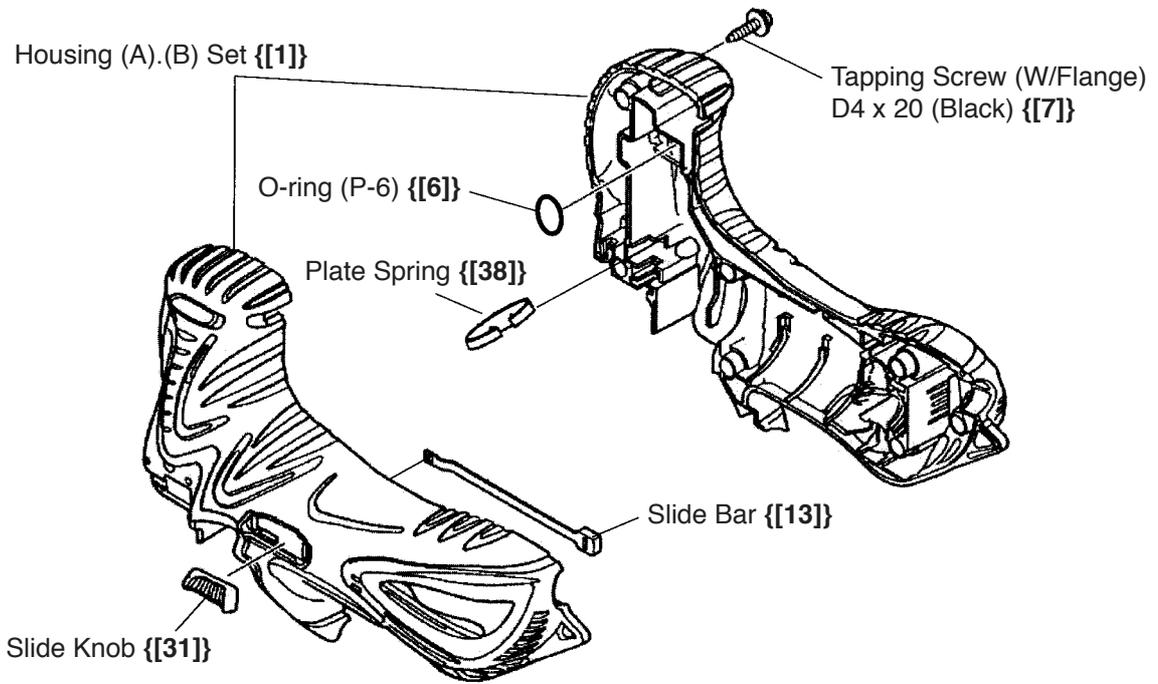
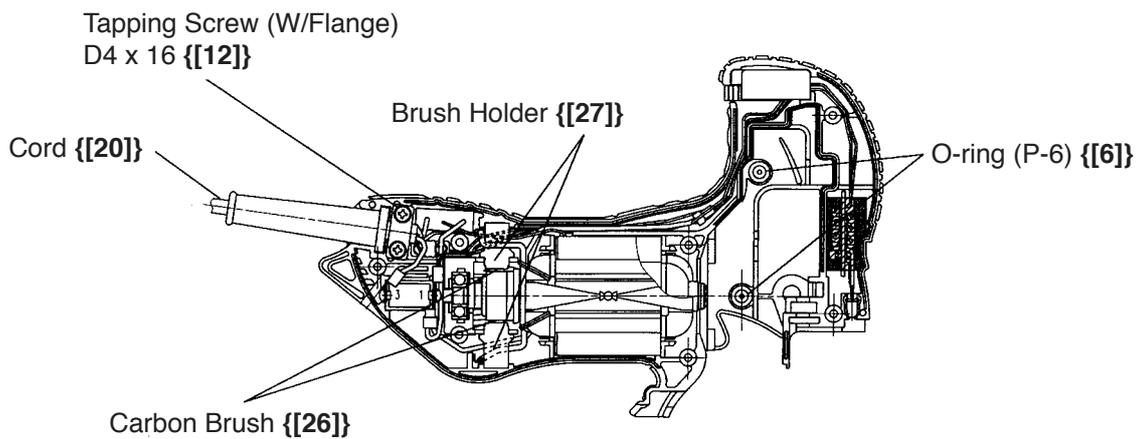

Fig. 7
Fig. 8
(3-2) Disassembly of Housing (A).(B) Set **{[1]}** for the Model CJ 110MVA (Fig. 7 and Fig. 8)